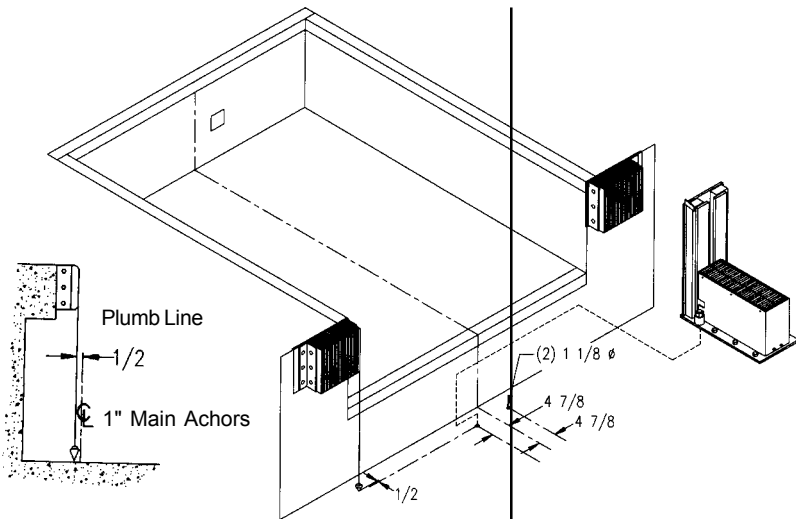

Figure 7
3. Position the Poweramp mechanical truck restraint in the center of the dock/door opening with the primary (1") anchor holes located 1/2" ahead of the bumper face as shown in Figure 7. After locating and marking the primary anchor locations (qty. 2) on the drive surface, drill 1-1/8" diameter holes 8-8-1/2" deep. If drill breaks through concrete at a depth of less than 6", consult factory. The remaining (6) 3/4" anchor holes can be drilled at this time.